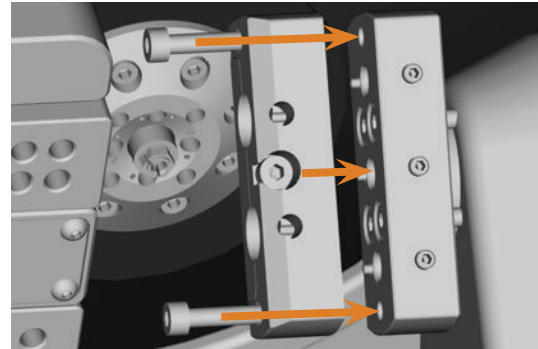

FIG. 19: SCREWING IN THE ABUTMENT HOLDER
- M4. Rotate the blank holder into a vertical position (↗ Fig. 19).